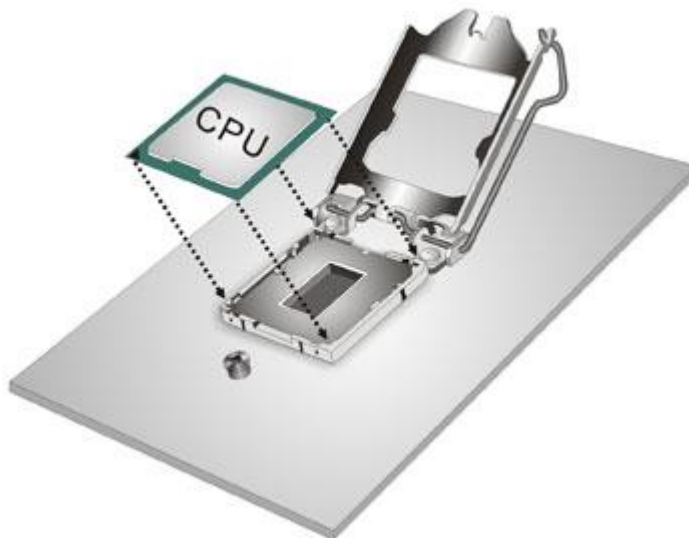

Figure 4-5: Insert The Socket LGA1200 CPU
Step 7: Insert the CPU. Gently insert the CPU into the socket. If the CPU pins are properly aligned, the CPU should slide into the CPU socket smoothly. See **Figure 4-5**.